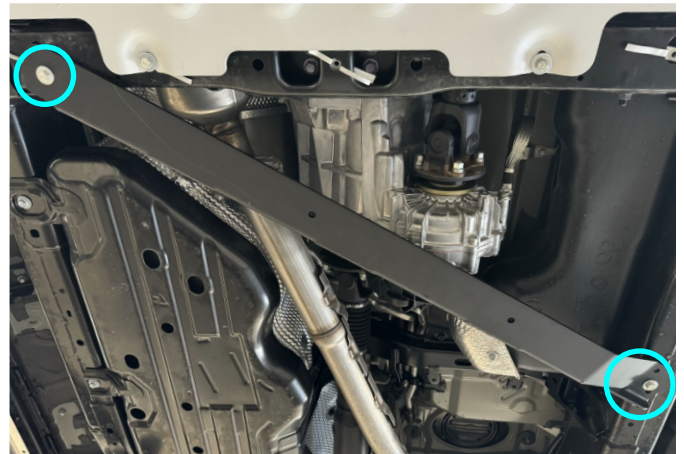

Fig. 4
4. Secure crossmember (item 2) using bolts M8x25 and washers M8 (items A, B) as shown in fig. 4.